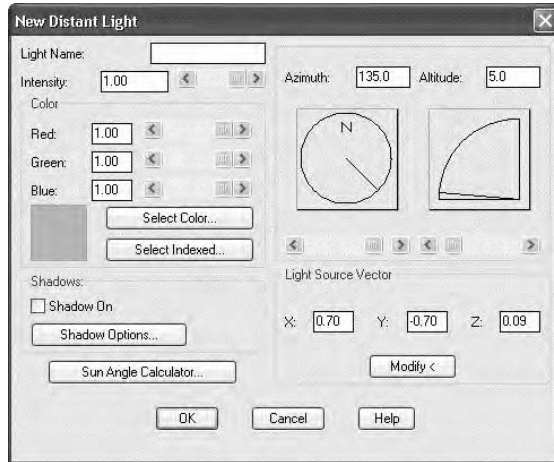

FIGURE A.30: The New Distant Light dialog box
2. On the left side, next to the New button, open the drop-down list and select Distant Light. Then click the New button to open the New Distant Light dialog box (see Figure A.30).
2. With Sunlight highlighted, click the Modify button to open the Modify Distant Light dialog box. It's almost identical to the New Distant Light dialog box in Figure A.30 (shown earlier).